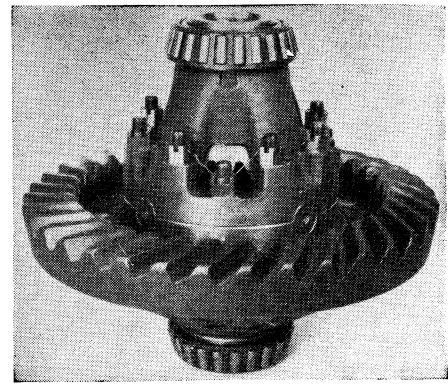

Fig. 75 If original identification marks are not clear, mark differential case halves with punch for correct alignment on reassembling
7. If original identification marks are not clear, Fig. 75, mark differential case halves with a punch for correct alignment on reassembling.